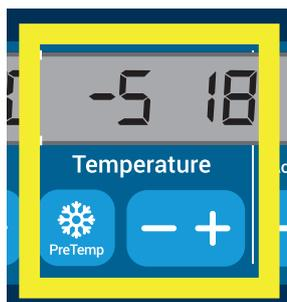

Figure 4-7: Setting the Temperature for the Centrifugation Run (right)
1. Press the **+** or **-** key below the **Temperature** field of the LCD display window (right side of Figure 4-7, showing 18 degrees Celsius) to adjust the desired rotor chamber temperature.